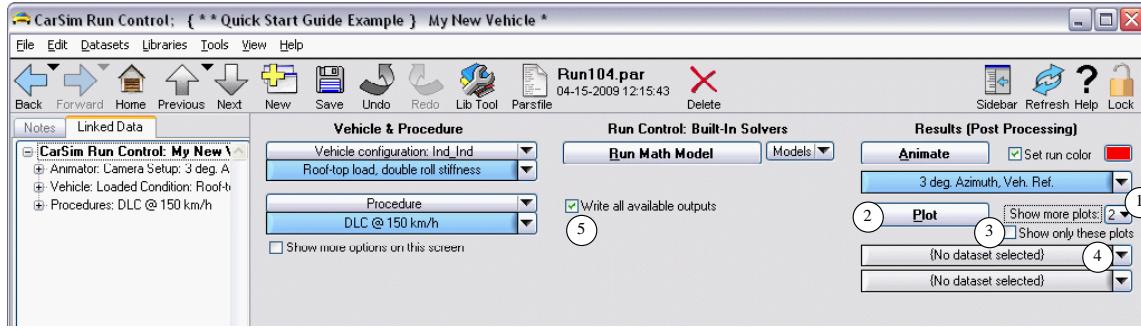
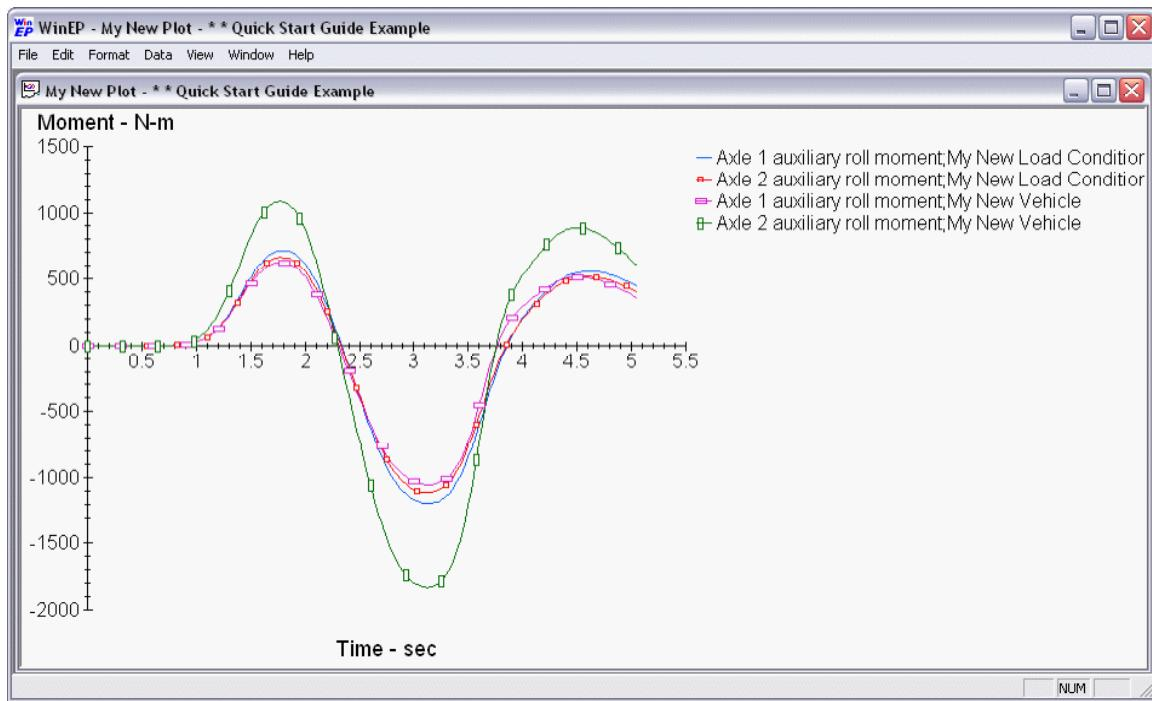
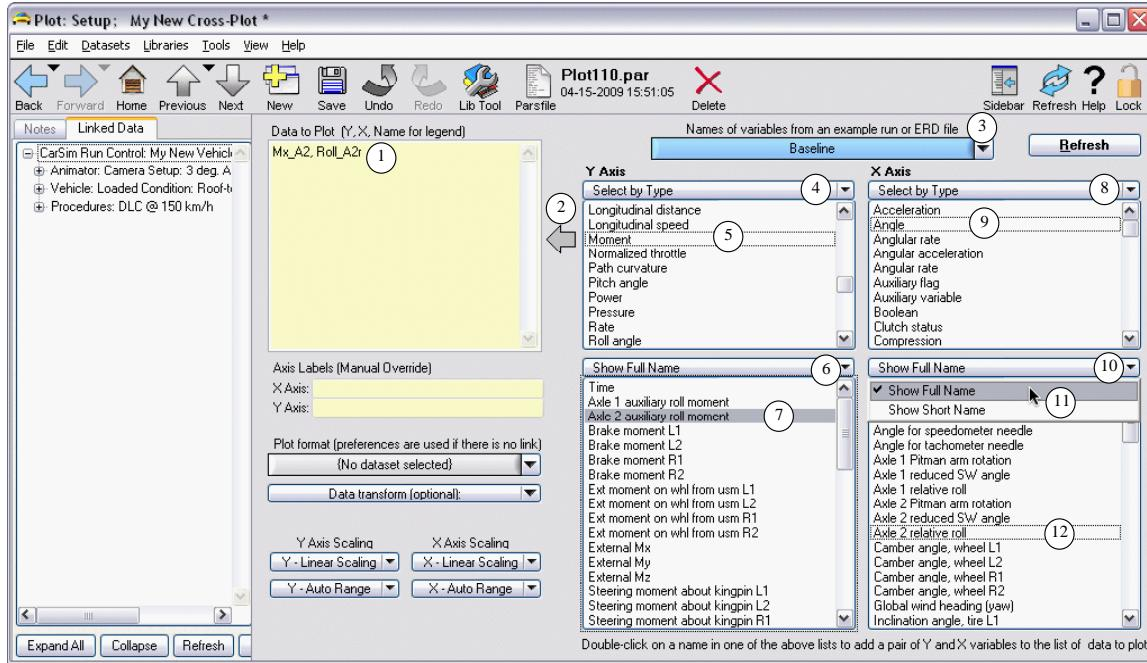

Figure 63. Adding more plots from the **CarSim Run Control** screen.
Figure 65. Newly defined plot for auxiliary roll moment.
Figure 66. Using the interactive browser to select variables to plot.
Continue with the **CarSim Run Control** screen, with the last dataset that was created in Chapter 2 (**Quick Start Guide Example; My New Vehicle** (Figure 63)).
6. Check the box to **Show only these plots** ③ (Figure 63) and then click the **Plot** button again. This time, only one plot window appears (Figure 65). After viewing, close the plotter.
Note The CarSim math models can produce hundreds or even thousands of output variables in each run. It is possible to make new runs with only subsets of the available variables, to save space in writing to file and to save time during post-processing. The checkbox on the **CarSim Run Control** screen ⑤ (Figure 63) to **Write all available outputs** is checked for the quick-start examples, to ensure that all variables are available for any new plots that might be defined as you explore the software.
7. Use the drop-down control ④ (Figure 63) for the second plot dataset and select the option to **Link to New Dataset**. Give it the name My New Cross-Plot. Click the blue button to go to the new dataset (Figure 66).
8. Use the drop-down control ③ (Figure 66) to select an existing simulation run, such as **Baseline**. The screen will refresh, and lists will be shown of available variable names for making plots using the Y axis ⑦ and X axis ⑫.
9. Choose the option **Select by Type** for both displays (Y ④ and X ⑧). The screen will now show available types of variables in the two lists (⑤ and ⑨).
The screen should now match the appearance seen in Figure 66.
In this section, you have seen how the plots are defined in the CarSim database. The **Plot: Setup** screen has a yellow field that specifies variables to be plotted using short names. One way to define a new plot setup is to type the names of the variables to be plotted, in the main yellow field on the screen ① (Figure 66). If you know the name, or can copy it from a text documentation file, this is a rapid way to create the dataset. The other way is to browse through the available variables and select the variables for plotting by clicking, as done in steps 8-11.